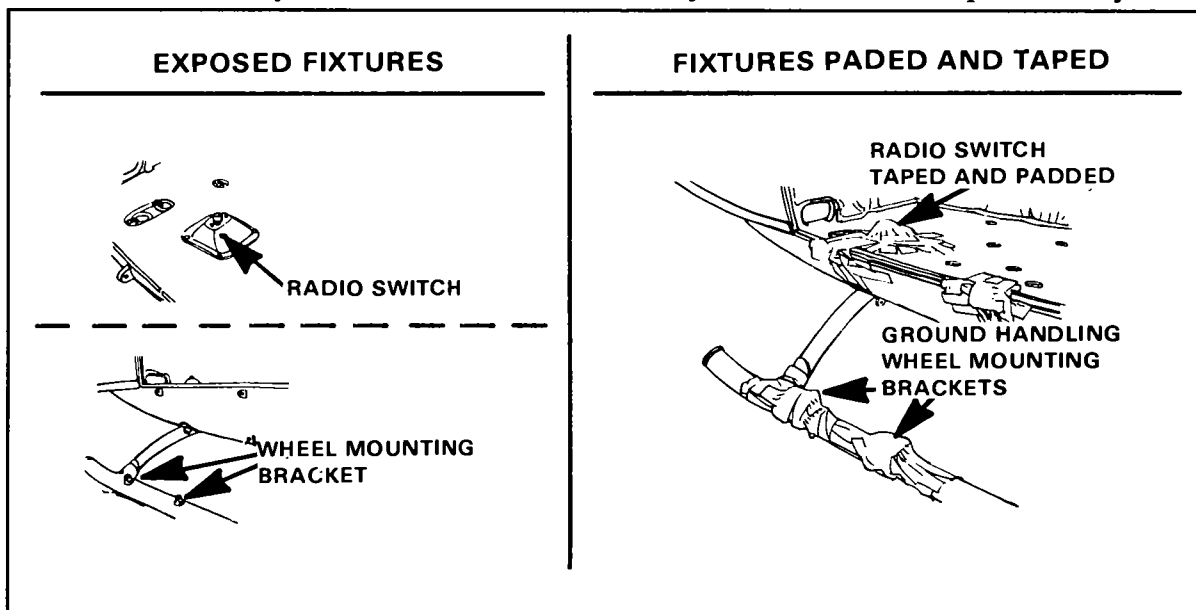

Figure 12-2. Exposed fixtures padded.
(2) All troop seats are removed except one seat on each side (located to the rear of the pilot and copilot seats). These two seats are installed so they are facing to the rear of the aircraft. If the parachutists are equipped with combat equipment and eight parachutists are to jump, all seats in the cargo compartment are removed.
(3) The door and frame are inspected to ensure there are not sharp edges that could cut or fray static lines. If these are determined hazardous, corrective action is taken before the helicopter is jumped.
(4) Under field conditions, the door and frame can be padded and taped to preclude a mission abort. Otherwise, the aircraft is returned to maintenance for correction of the deficiency.
(5) Safety belts are attached to the tie-down rings on each side of the compartment for floor-seated parachutists.
(6) The door gunner/crew chief foot-operated radio switch may be unscrewed (by hand) before jumping. The exposed radio switch wires are taped to prevent an electrical short. If the switch is not removed, it is padded and taped. The ground-handling, wheel-mounting brackets on both landing skids are padded with cellulose wadding and taped (Figure 12-2). Some aviation units have fabricated special covers that may be used to cover the wheel mounting brackets.